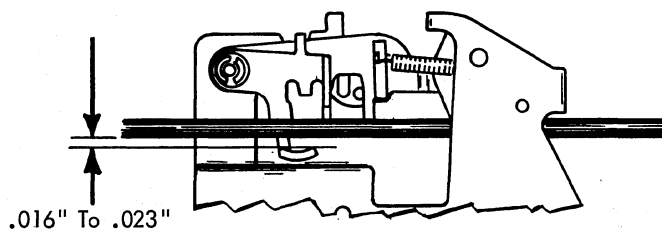

FIGURE 167. Tab Trigger Extension
9. Tab Trigger Extension (Fig. 167) - Form the front (curved) lug of the tab trigger to obtain $.016'' - .023''$ clearance between this lug and the tab torque bar with all parts at rest.